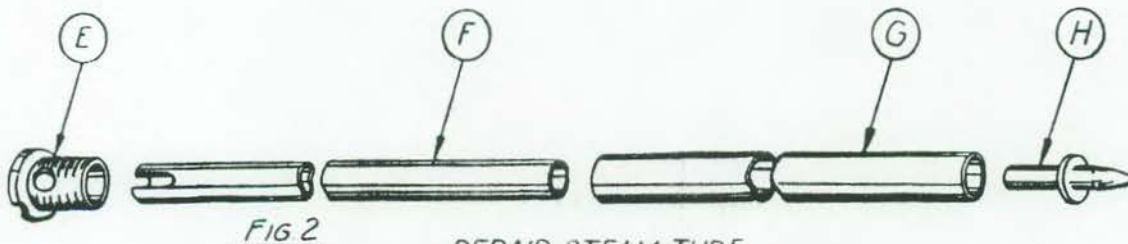

FIG. 2
- (37) CHECK EARS (C) OF BOTTOM PLATE WITH GAGE (B). THE SMALL END CHECKS INSIDE AND THE FORKED END CHECKS THE OUTSIDE DIMENSION. EARS (C) MAY BE SPREAD BY INSERTING TOOL (A) AND TIGHTENING IT UP. IF NECESSARY TO DRAW EARS TOGETHER, USE A SMALL "C" CLAMP.
- (38) THE HOLES (C) ARE NOW CHECKED WITH GAGE (G), FIG. 2, AND REAMED WITH ALIGNMENT REAMER (H) IF NECESSARY. CHECK TRUNNION HOLES (J) WITH GAGE (X), AND REAM WITH ALIGNMENT REAMER (F) IF NECESSARY. CHECK ADAPTERS (E) WITH GAGE (D). IF THE "GO" END OF GAGE WILL NOT SLIP OVER (E), FILE THE SIDE FACES OF (E) UNTIL GAGE FITS. GAGE (K) MUST MOVE UP AND DOWN FREELY OR CASING MUST BE CAREFULLY SPREAD APART.
- 40 BOTH ENDS (E) AND (H), FIGURE 2, OF STEAM TUBE ARE SOLDERED IN PLACE AND CAN BE REMOVED BY HEATING AND PULLING OFF. SLEEVE (G) NOW SLIDES OFF TUBE (F). REPLACE PARTS IF NECESSARY, AND SLIP SLEEVE (G) OVER (F), (E) AND (H) AND SWEAT INTO POSITION SHOWN IN FIGURE 2.